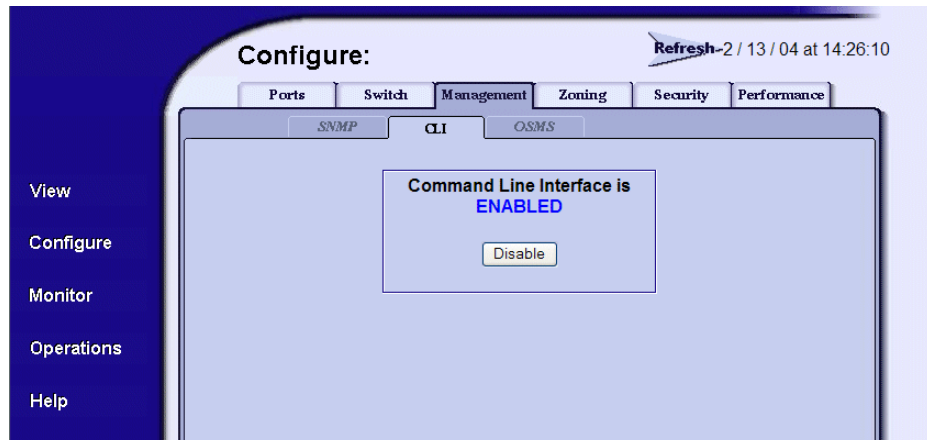

Figure 12: Disabling the CLI
2. Click the **Management** tab and the **CLI** tab. The **CLI** tab view displays (Figure 12).